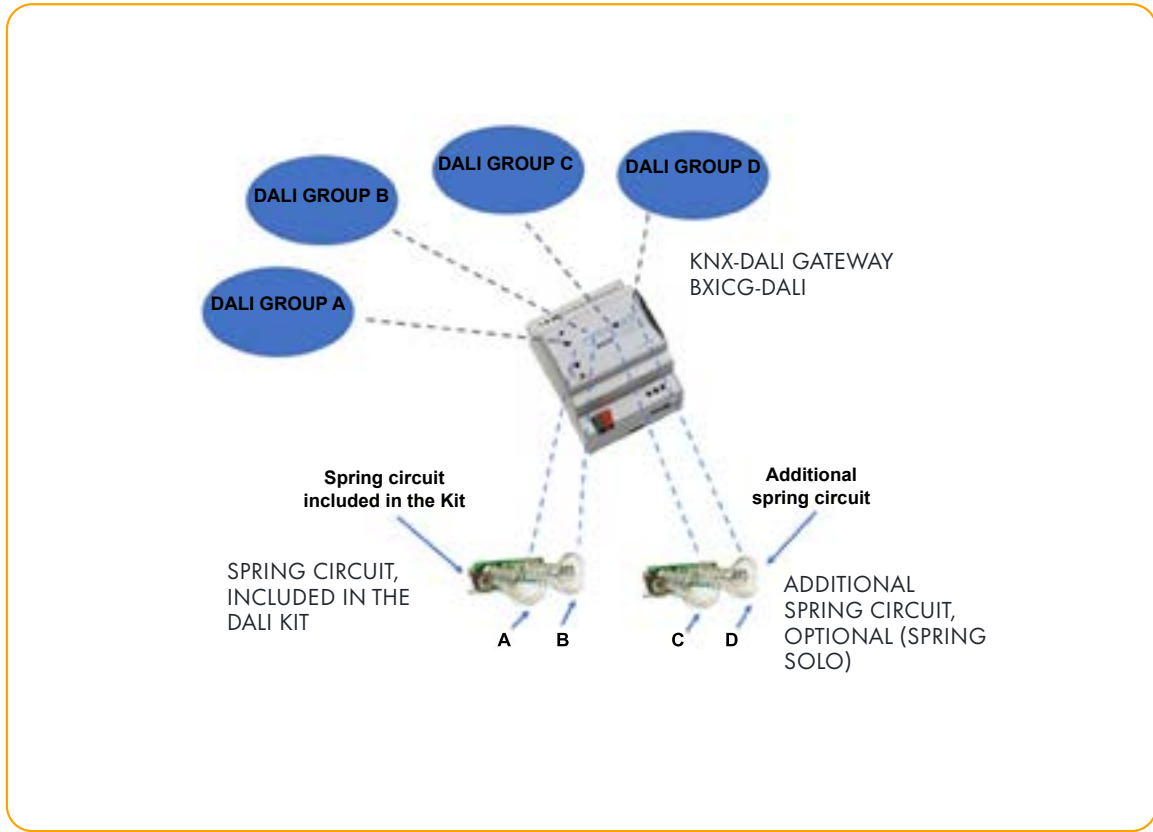

fig. 2.1
If a greater number of Dali drivers is needed (max 32), Group A and Group B can also be controlled from a single point on the ceramic surface. As an example, the point corresponding to the individual spring A acts on both group A and group B. This is possible by following the wiring harnesses as per fig. 2.1 and 2.2
2. From the factory the Dali Gateway groups are thus paired with the springs as shown in fig. 2.1